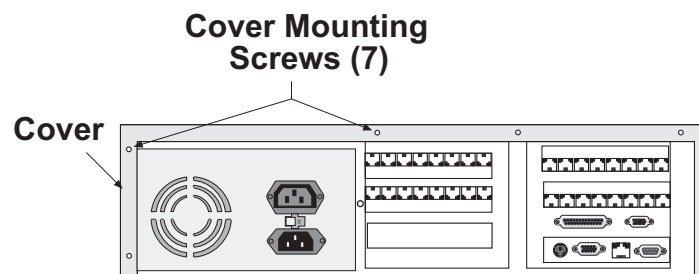

Fig. 4-3. Cover Mounting Screws
- 2 Remove the top cover from the CommPlete 4000 by removing the seven cover mounting screws located in the back of the CommPlete 4000. (See Figure 4-3.)
- 2 Remove the top cover from the CommPlete 4000 by removing the seven cover mounting screws located in the back of the CommPlete 4000. See figure 4-3.